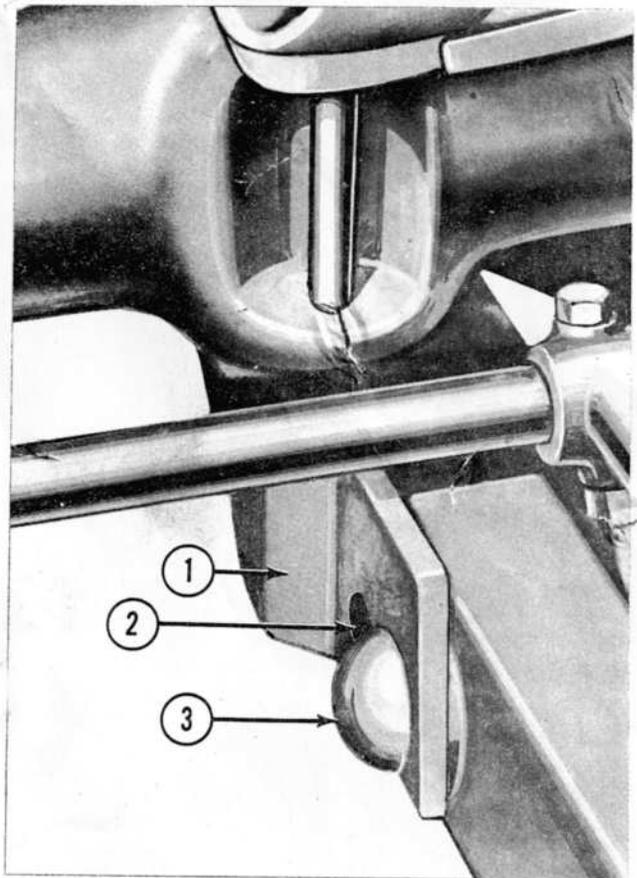

Figure 13
- b. Attach the rear mounting brackets (1), Figure 13, to the axle loosely with nuts and lockwashers. Do not tighten nuts.
2. Attach the rear frame members to the rear mounting brackets with two $1" \times 4\frac{1}{4}"$ round head pins, see (3) Figure 13, and two $\frac{1}{4}" \times 2"$ cotter pins. *NOTE: Use the front hole when mounting the loader on Series 600 or 800 tractors, and use the rear hole (2), Figure 13, when mounting the loader on the Model NAA tractor.*